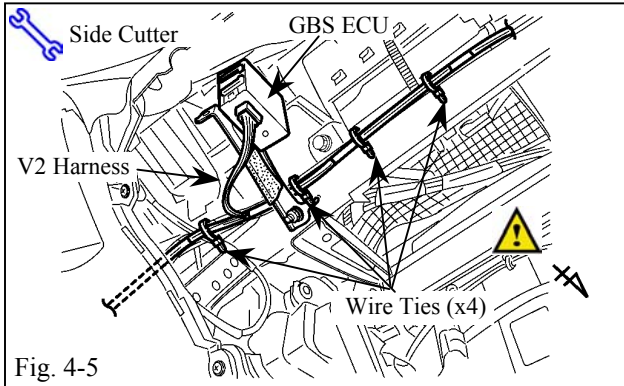

Fig. 4-5
- (f) Connect the V2 harness to the GBS ECU. Secure the V2 harness to the vehicle harness with four wire ties. (Fig. 4-5)